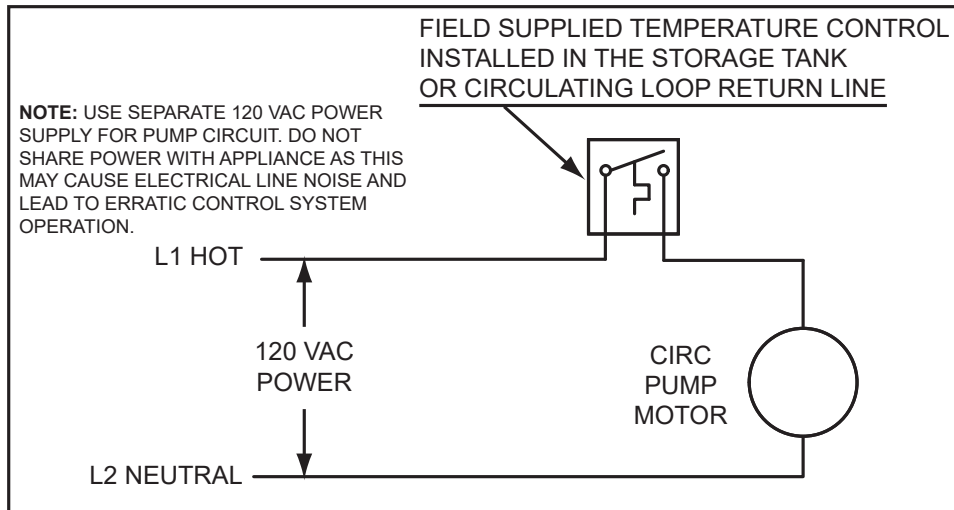

Figure 86. Recirculating Loop with Storage Tank or Building Recirculation
6. If a pump is being installed between a water heater and storage tank or on a building recirculation loop wire according to *Figure 86* (page 101).